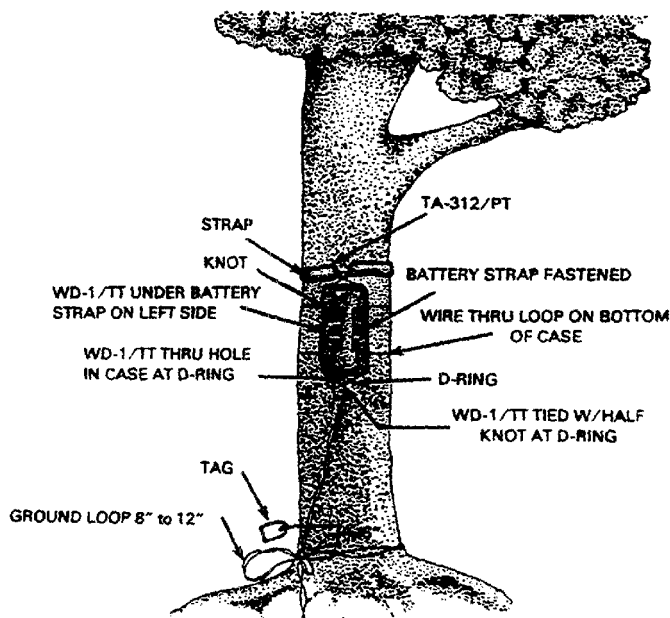

Figure D-2. TA-312/PT Installation
c. Telephone Set TA-312/PT (Figure D-2) may be installed on a tree or pole. Unfasten the carrying strap from the end
(1) Remove about one inch of insulation from each wire of the pair to be connected (Field Wire WD-1/TT or WD-1A/TT). Strip 1/4-inch insulation and slide to the end of the wire as a keeper.
(2) Fold back the skinned portion of each wire about 1/2 inch.
(3) Push down on one of the line 1-2 binding posts, insert the bare end of one of the wires into the binding post slot, and release the pressure. Be sure the wire is clamped firmly. Repeat the procedure for the other wire and binding post.
(4) Tie the wire to the ring on the carrying case, and make a ground loop tie at the base of tree or pole.
(5) Operate the selector switch for the type of operation desired--local battery, common battery, or common battery signaling. Install two batteries (BA-30) in the battery compartment for local battery or common battery signaling.
(6) Figure D-2 shows condensed operating instructions for the Telephone Set TA-312/PT.
(7) When the telephone set is used as a desk set in a semipermanent installation, the canvas case may be removed and stored for future use.